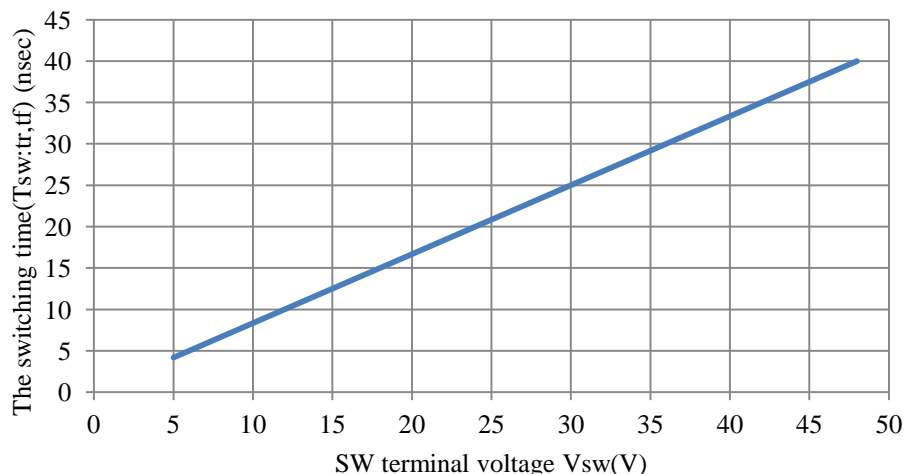

fig.19
As for the fig.19, in the calculation of the switching-time of internal PowerMOSFET, this is based on the assumption with no influence such as Parasitic-Inductance in main-circuit. It is prescribed with “turn-on time tr” and “turn-off time tf” being the same speeds.
As the loss of internal-PowerMOSFET, there are the loss of “steady-ON” by the ON-resistance “Ron” between the “source” and “drain”, and the switching-loss by the switching-time in the fig.19.
- $T_{sw}$  is prescribed by the value (sec) of the figure 19 with “turn-on time  $t_r$ ” and “turn-off time  $t_f$ ” being the same speeds. In the same period, switching occurs twice. There is no problem if actual measurement value is substituted when an actual movement wave form can be observed with oscilloscope and so on.